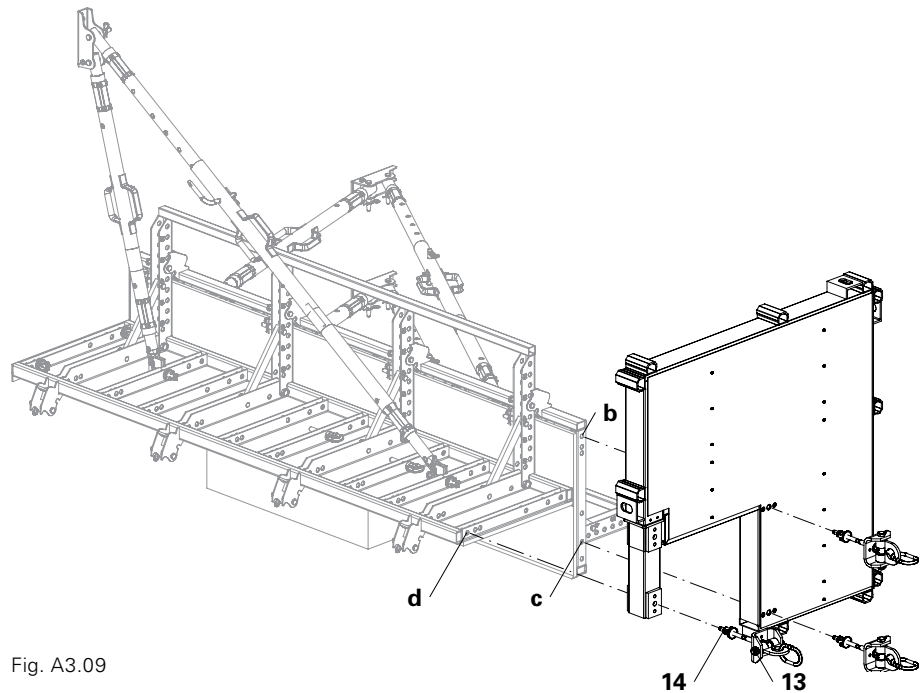

Fig. A3.09
2. Remove the cam nuts DW 15 (14) from the crane eyes on the concreting platform (13) and position the platform by hand on the element group.
5. Align telescopic girder to drilled hole (d) and mount the third crane eye of the concreting platform.(Fig. A3.09)